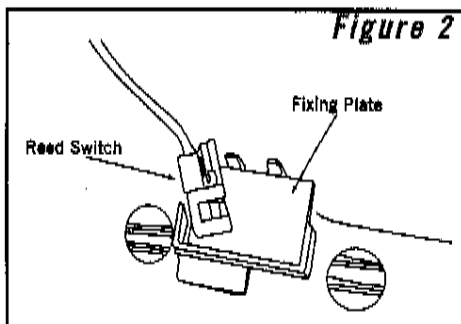

Figure 2
- 4) For Models PST 6 & 8/1.2T-5.2T Only – Unplug reed switch from upper board and remove switch from fixing plate. (figure 2) Skip to step 8.